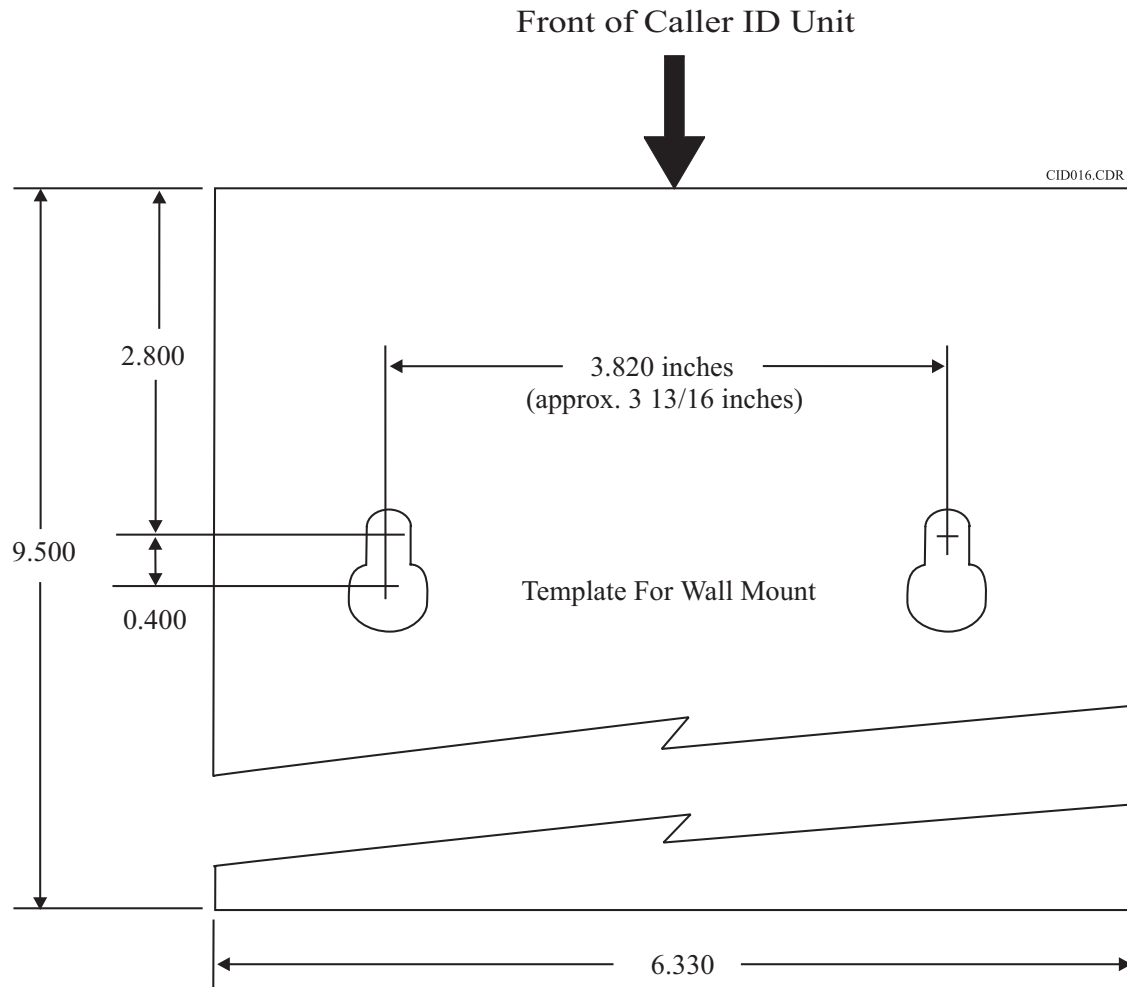

Figure 2. Template For Caller ID Wall Mounting
1. Insert two #10 panhead screws (obtained locally) in the wall until their heads are within 1/8-inch of the wall surface. Use the spacing dimensions shown in the template provided in Figure 2. Use appropriate anchoring hardware when mounting the device on a hollow wall.